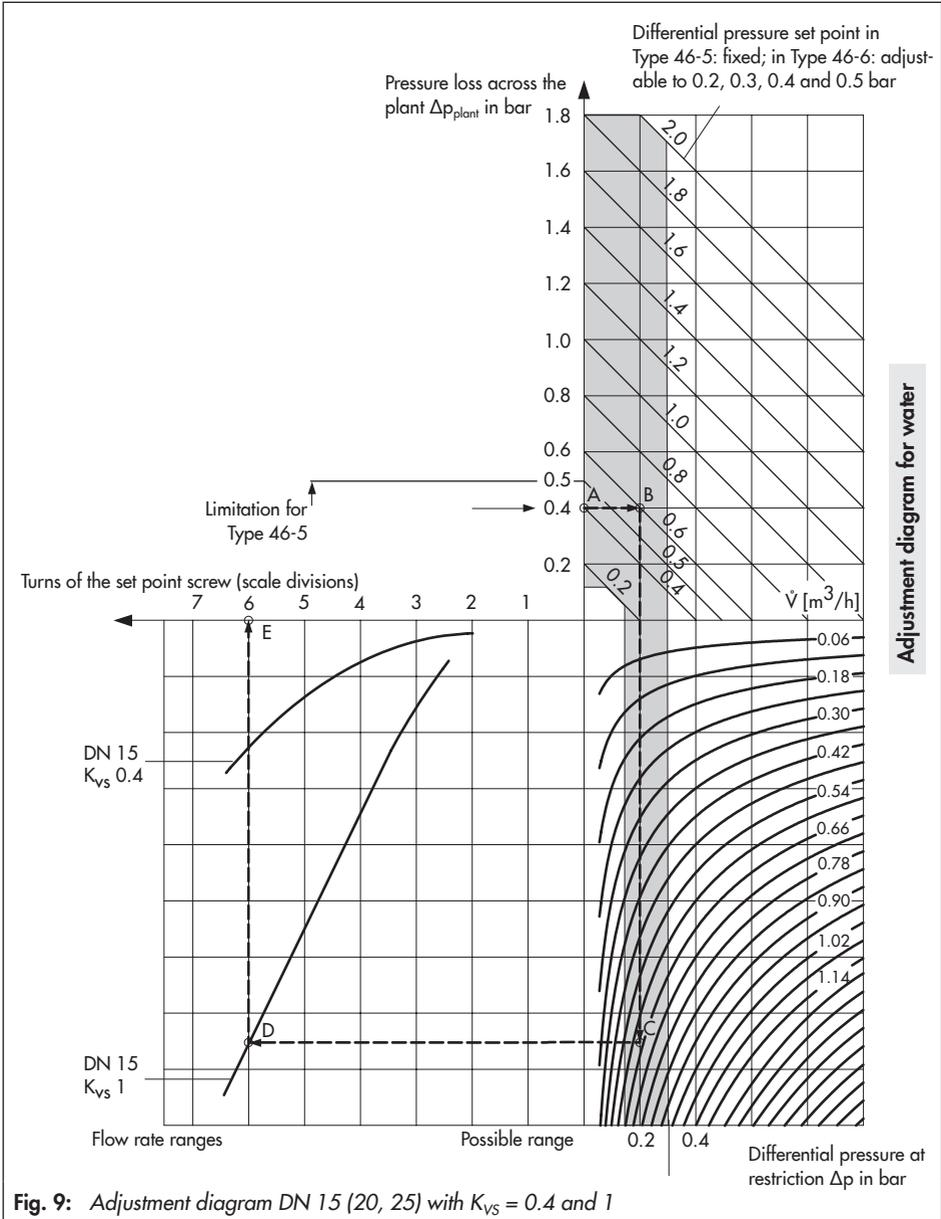
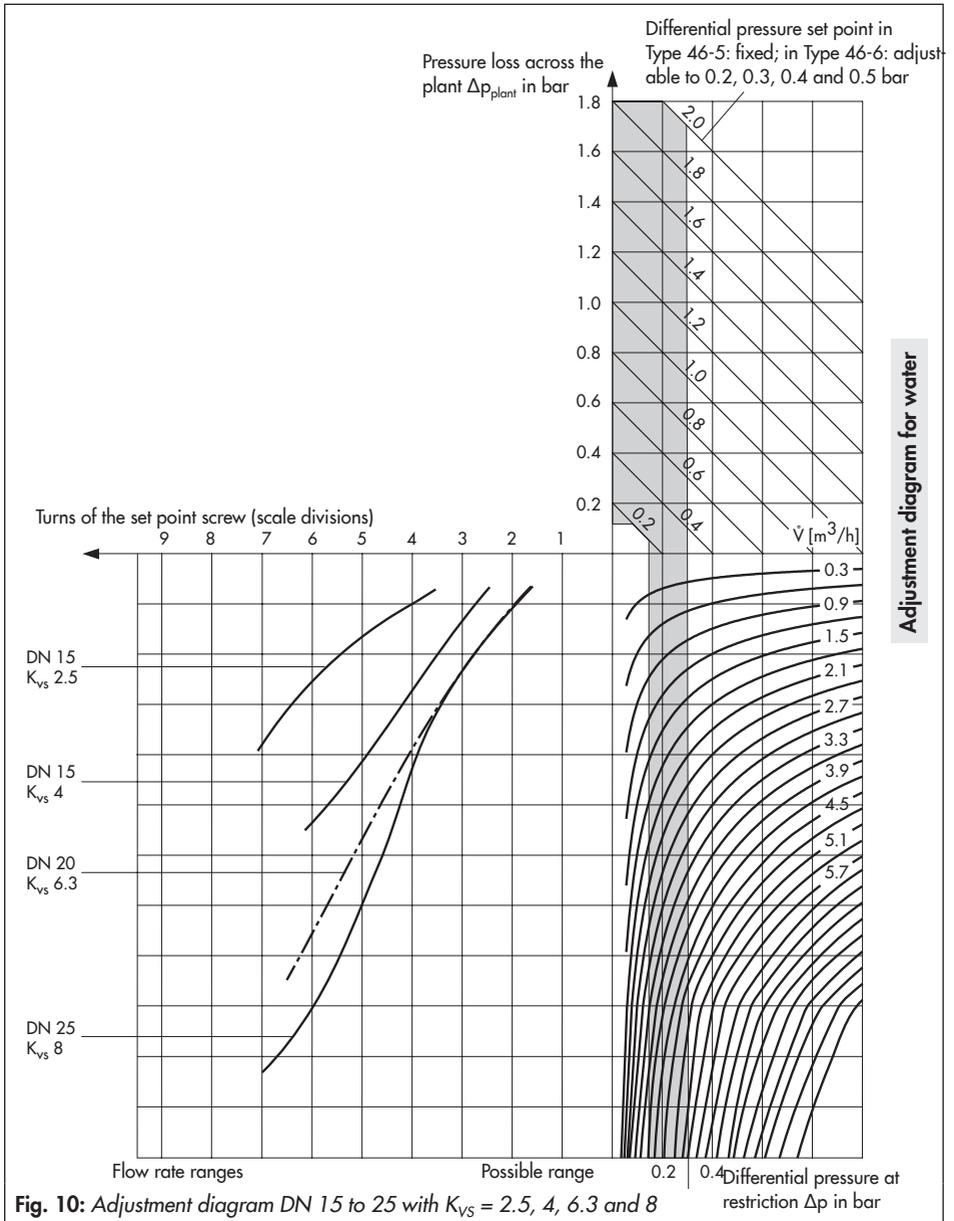
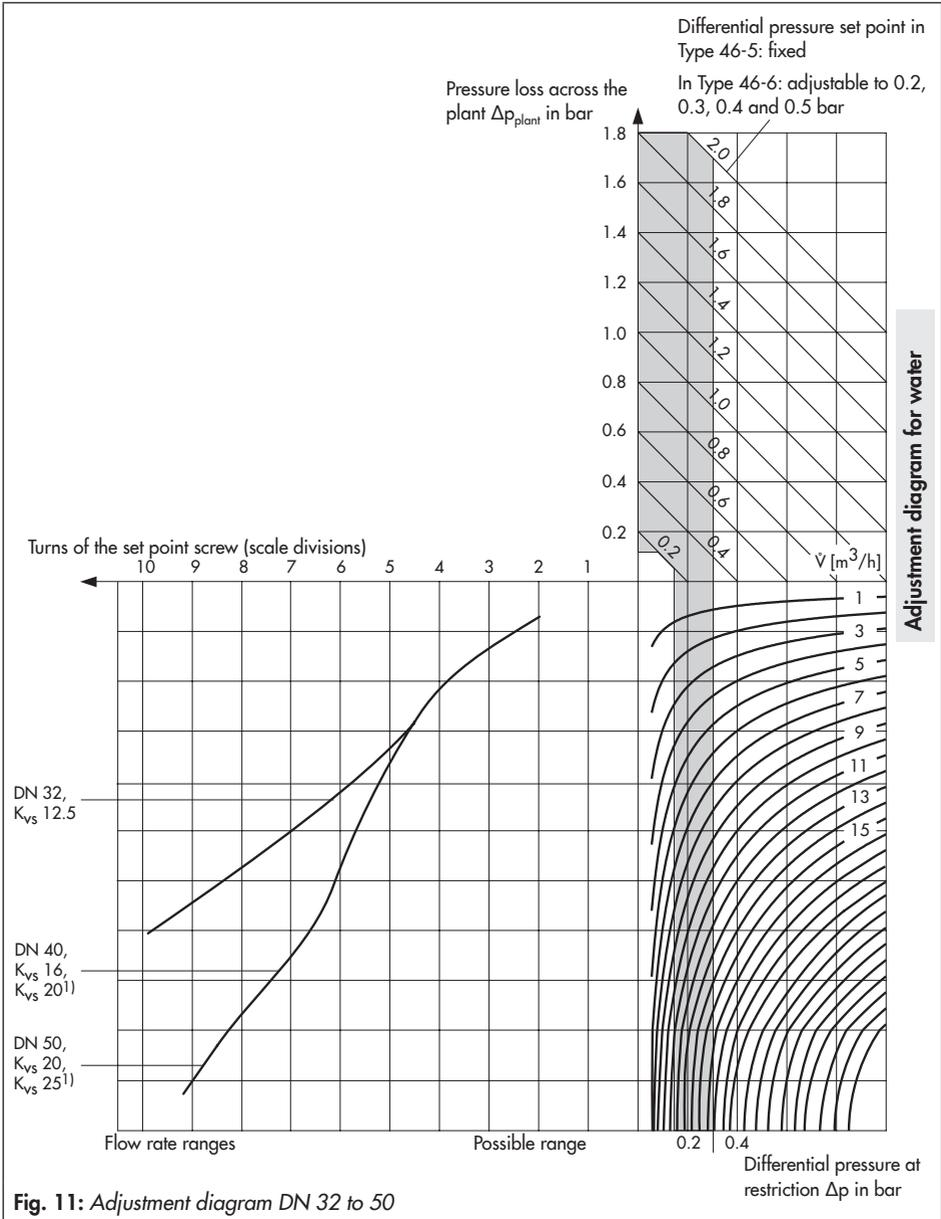

Fig. 9: Adjustment diagram DN 15 (20, 25) with $K_{VS} = 0.4$ and 1
Fig. 10: Adjustment diagram DN 15 to 25 with $K_{VS} = 2.5, 4, 6.3$ and 8
Fig. 11: Adjustment diagram DN 32 to 50
To adjust the flow rate limit when the pressure drop of the plant is known, use the adjustment diagrams for water (Fig. 9, Fig. 10 and Fig. 11).
The curves of the flow ranges in the following diagrams (Fig. 9, Fig. 10 and Fig. 11) apply to 0.2 and 0.4 bar.
- Determine the adjustment values using the adjustment diagram Fig. 9 on page 28.
Sequence: points **A** to **E** in diagram (Fig. 9).